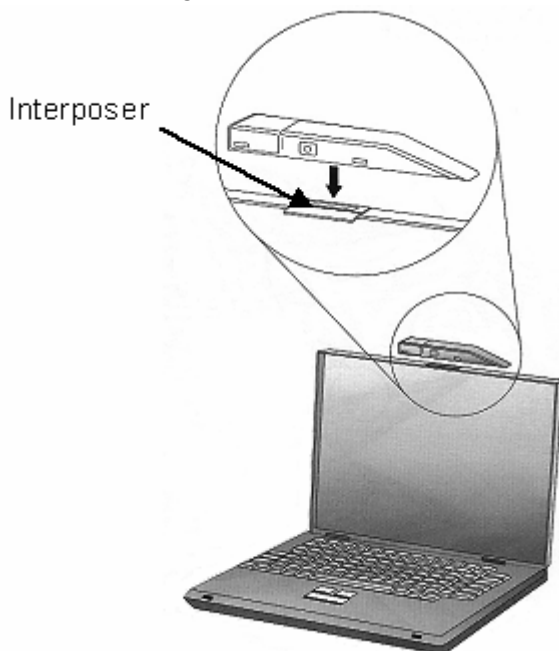

Figure 12-10.- Ultraport Camera position.
2.3 Open small cover above Interposer (refer to figure 12-10)
Refer to figures 12-10 and 12-11